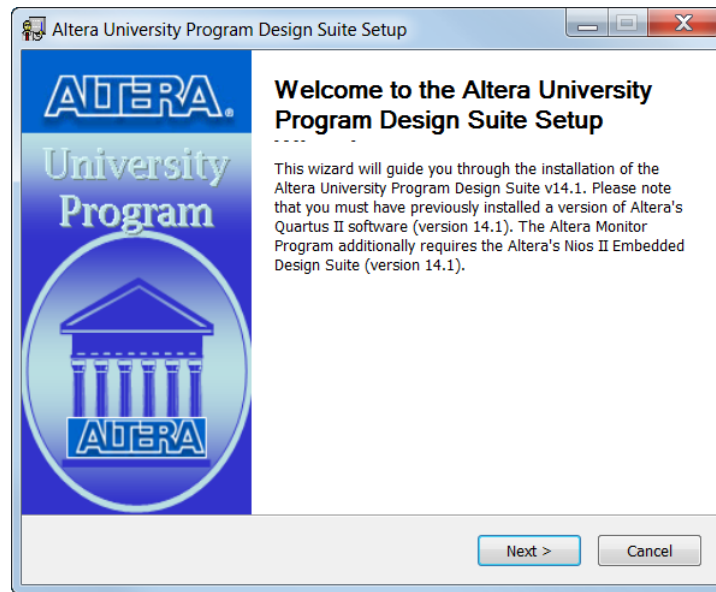

Figure 1. Intel UPDS Setup Program.
2. The first screen of the installer is shown in Figure 1. Click on the **Next** button.